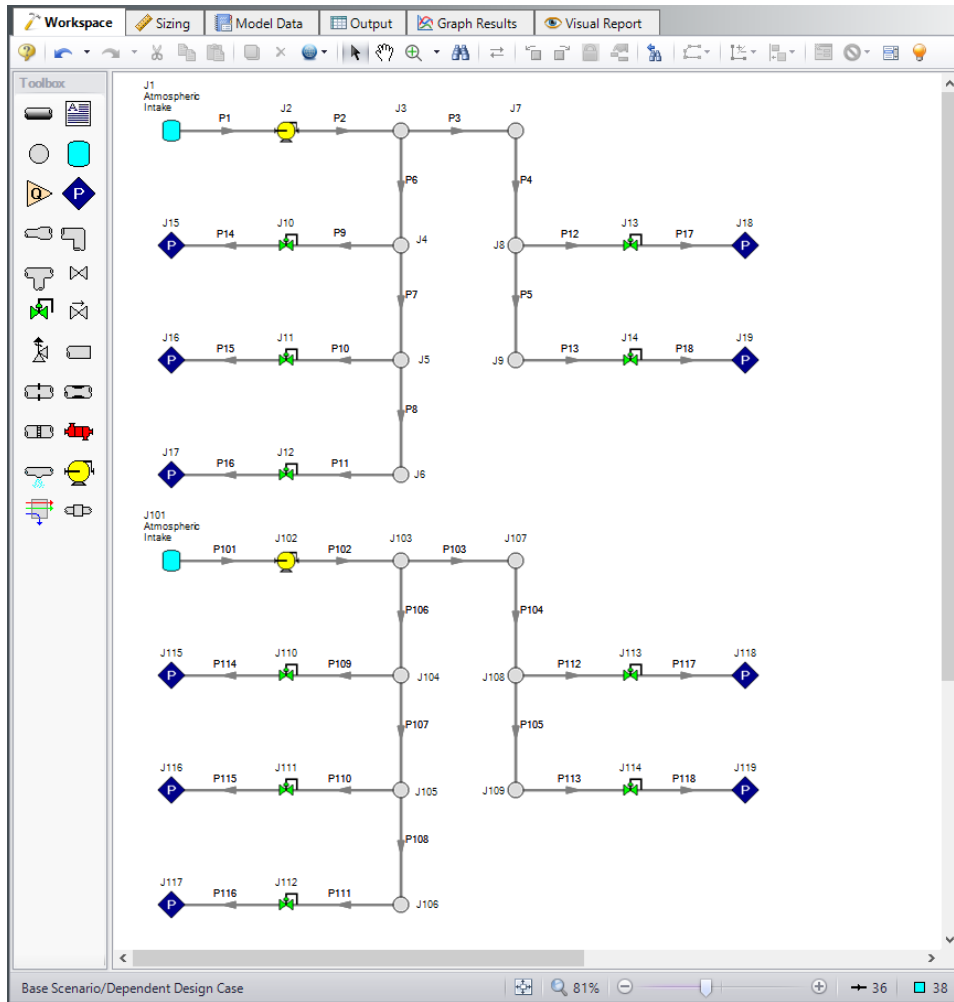

Figure 4: Workspace with the Dependent Design Case created for the Air Distribution model
7. Click OK and move the duplicated version of the primary design case to an open area in the Work-space. The model should now appear similar to Figure 4.
The dependent design case capability takes advantage of the ANS module's ability to run multiple models in the same Workspace. The pipes and junctions in Figure 4 that are numbered greater than 100 (i.e., the dependent design case) represent the same pipes and junctions as those numbered less than 100 (i.e., the primary design case). It is therefore critically important that only certain data in the dependent case is changed.